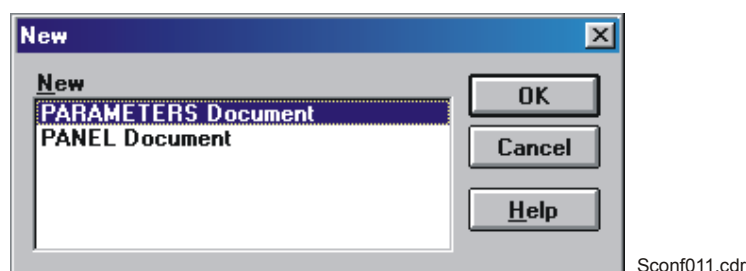

Figure 4 New Dialog Box
- 2) In the “NEW” dialog box (see Figure 4) select **PANEL DOCUMENT**. A new window containing a blank panel is opened.